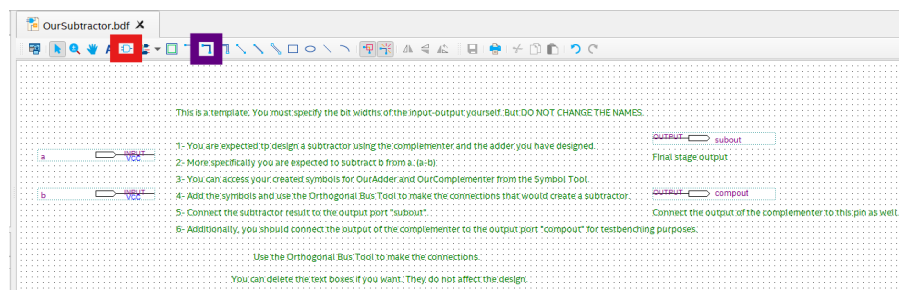

Figure 2: Quartus block diagram visual. The "Symbol Tool" is outlined in red. And the "Orthogonal Bus Tool" is outlined in purple.
3. Open the Symbol Tool(Figure 2). And add the created symbols. They are under the Library named "Project".